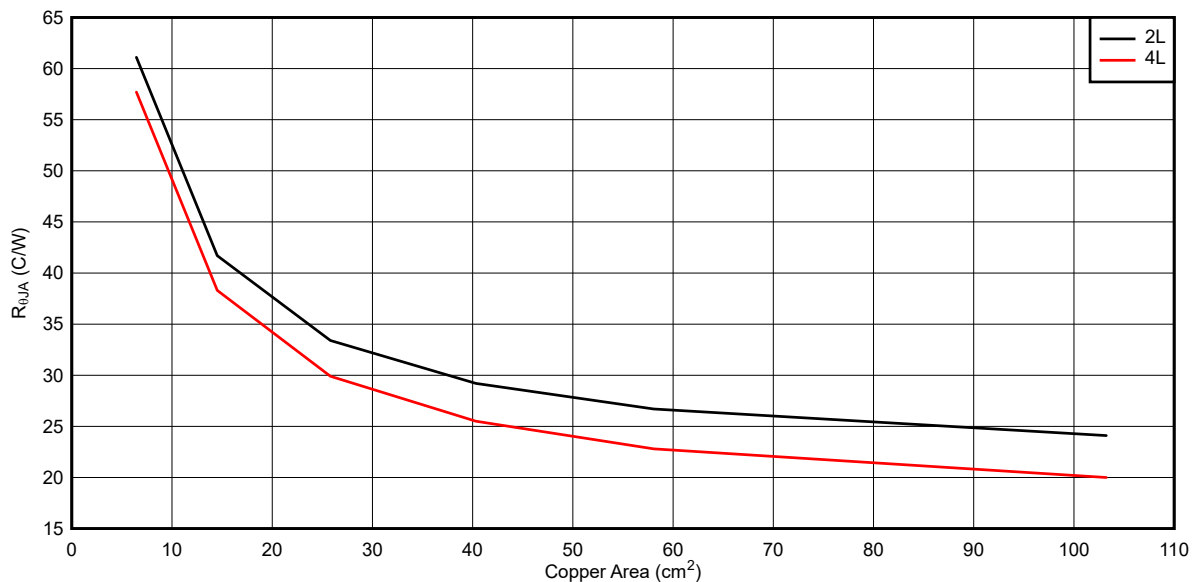

Figure 9-15. Typical $R_{\theta JA}$ vs Copper Area
The LM5013 features a die attach paddle, or "thermal pad" (EP), to provide a place to solder down to the PCB heat-sinking copper, which provides a good heat conduction path from the regulator junction to the heat sink and must be properly soldered to the PCB heat sink copper. Typical examples of $R_{\theta JA}$ can be found in Figure 9-15. The copper area given in the graph is for each layer. The top and bottom layers are 2-oz. copper each, while the inner layers are 1 oz. Remember that the data given in this graph is for illustration purposes only, and the actual performance in any given application depends on all of the previously mentioned factors.
To continue with the design example, assume that the user has an ambient temperature of 70°C and wishes to estimate the required copper area to keep the device junction temperature below 125°C, at full load. From the curves in Application Curves, an efficiency of about 92% was found at an input voltage of 48 V with output of 12 V with 1.75-A load. The efficiency is somewhat less at high junction temperatures, so an efficiency of approximately 90% is assumed, which gives a total loss of approximately 2.3 W. Subtracting out the conduction loss alone for the inductor and catch diode, the user arrives at a device dissipation of approximately 1.54 W. With this information, the user can calculate the required $R_{\theta JA}$ of about 30°C/W. Based on Figure 9-15, the required copper area is approximately 40 cm² for a two-layer PCB.